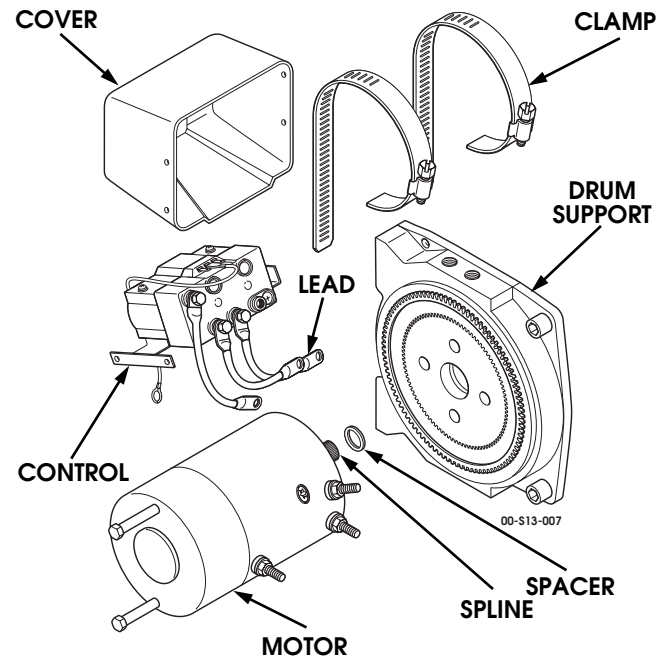

Figure 13-14: Motor and Control Unit
9. Inspect motor, spline, mating surface, and terminals for damage. Replace motor if damaged (Figure 13-14).